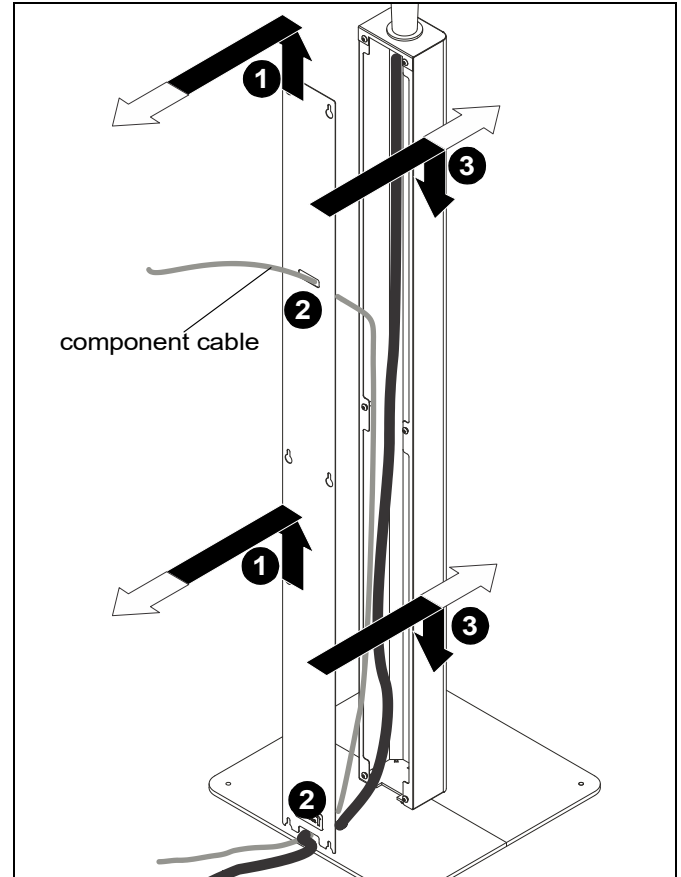

Figure 5
1. Loosen screws (E) holding cover (B) to column (A) and remove cover (B). (See Figure 5)
2. Route component cable(s) using middle and lower openings on cover (B). (See Figure 5)
3. Reinstall cover (B) and tighten screws (E) to secure cover (B) to column (A). (See Figure 5)